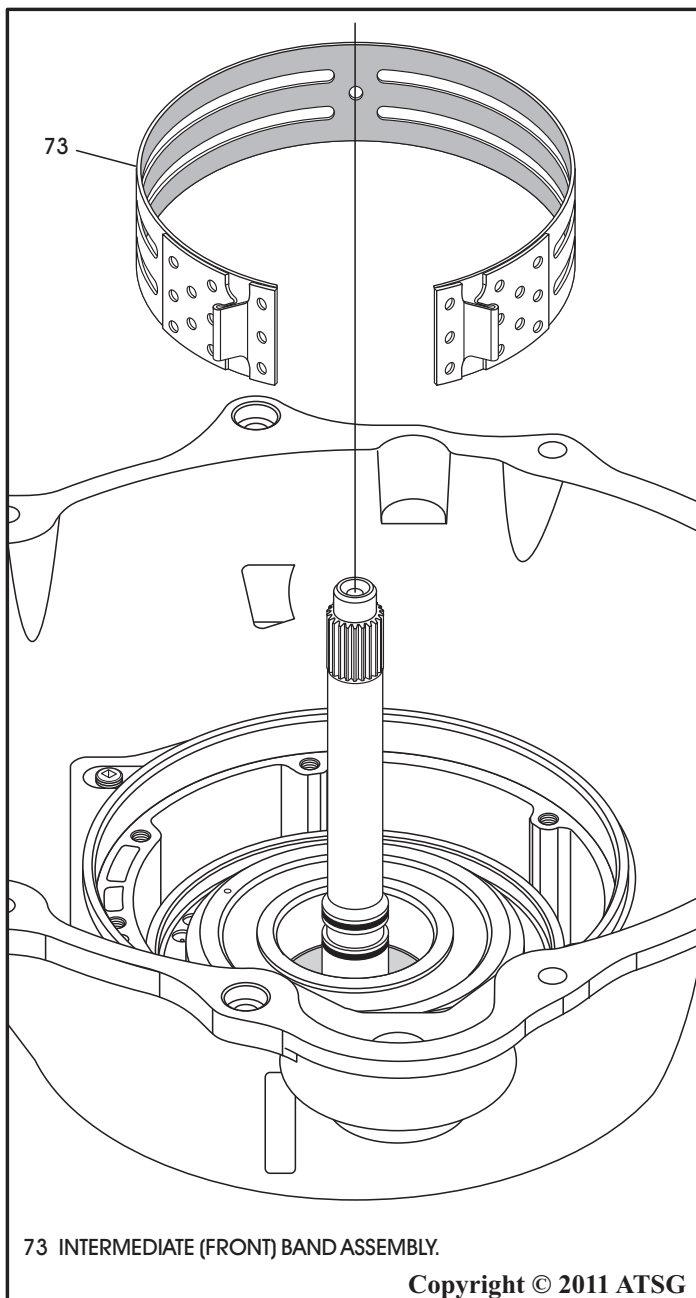

Figure 78
41. Remove the front (intermediate) band from the case, as shown in Figure 78.